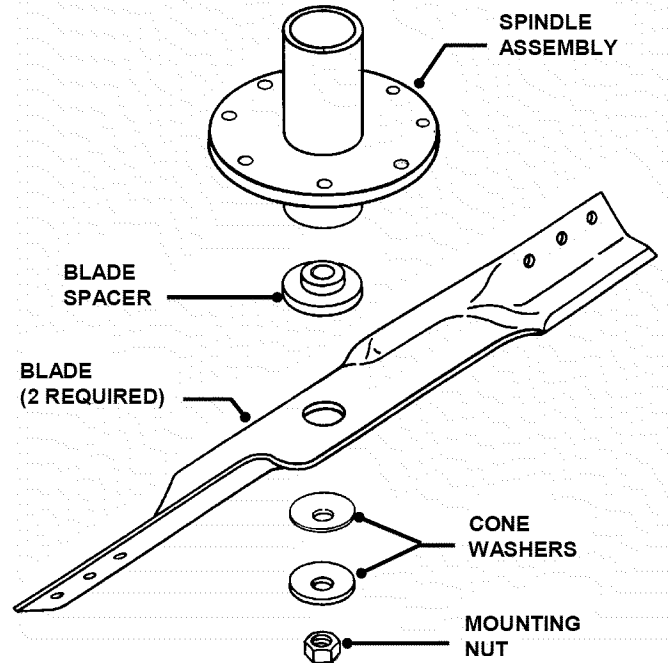

FIGURE 4.27
5. Remove blade mounting nut and cone washer from each blade. See Figure 4.27.